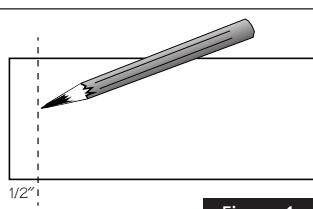

Figure 1
- 1 You will begin by mounting the decorative furniture legs to either side of the toe kick overlay. Mark a light pencil line $\frac{1}{2}$ " from either end of the toe kick overlay as shown in Figure 1.